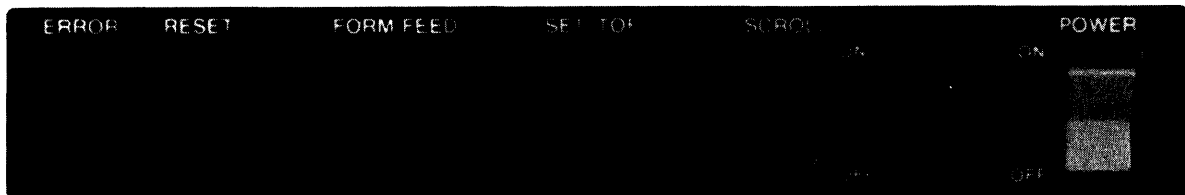

Figure 2-2. Front Panel
2.2.1 Front Panel (Figure 2-2)